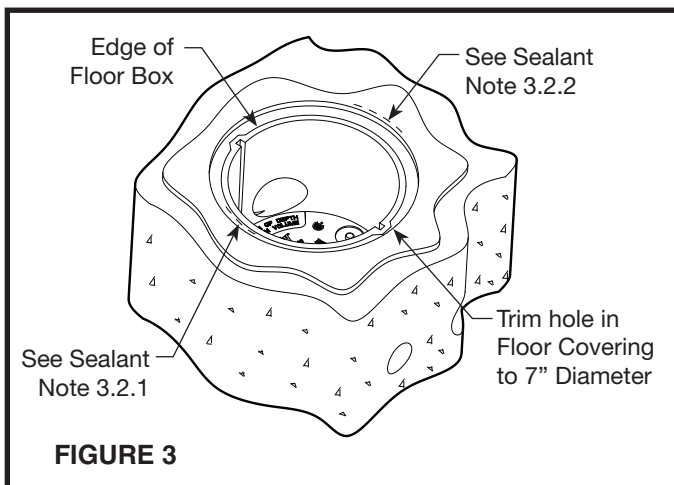

FIGURE 3
- 1.3 Install floor covering and trim hole around floor box opening to 7" diameter (see Figure 3).
- 3.2.1 Concrete and carpet: Apply moderate amount of sealant or caulk directly to concrete floor fully around box opening. (about 1/8" from outside edge of box). Use enough sealant to block water entry (see Figure 3).
- 3.2.2 Tile, Wood and Linoleum: Apply moderate amount of sealant directly on finished floor. Fully surround 7" diameter opening in floor. Use enough sealant to block water entry (see Figure 3).